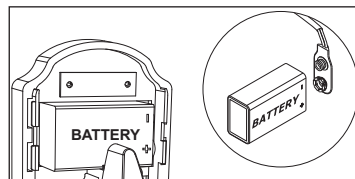
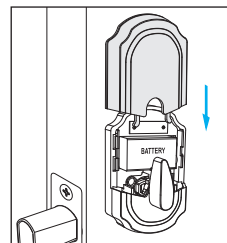

Fig. 12
Fig. 13
Step 7. Install the 9V alkaline battery (Fig. 12) and cover the battery compartment to complete the installation (Fig. 13).